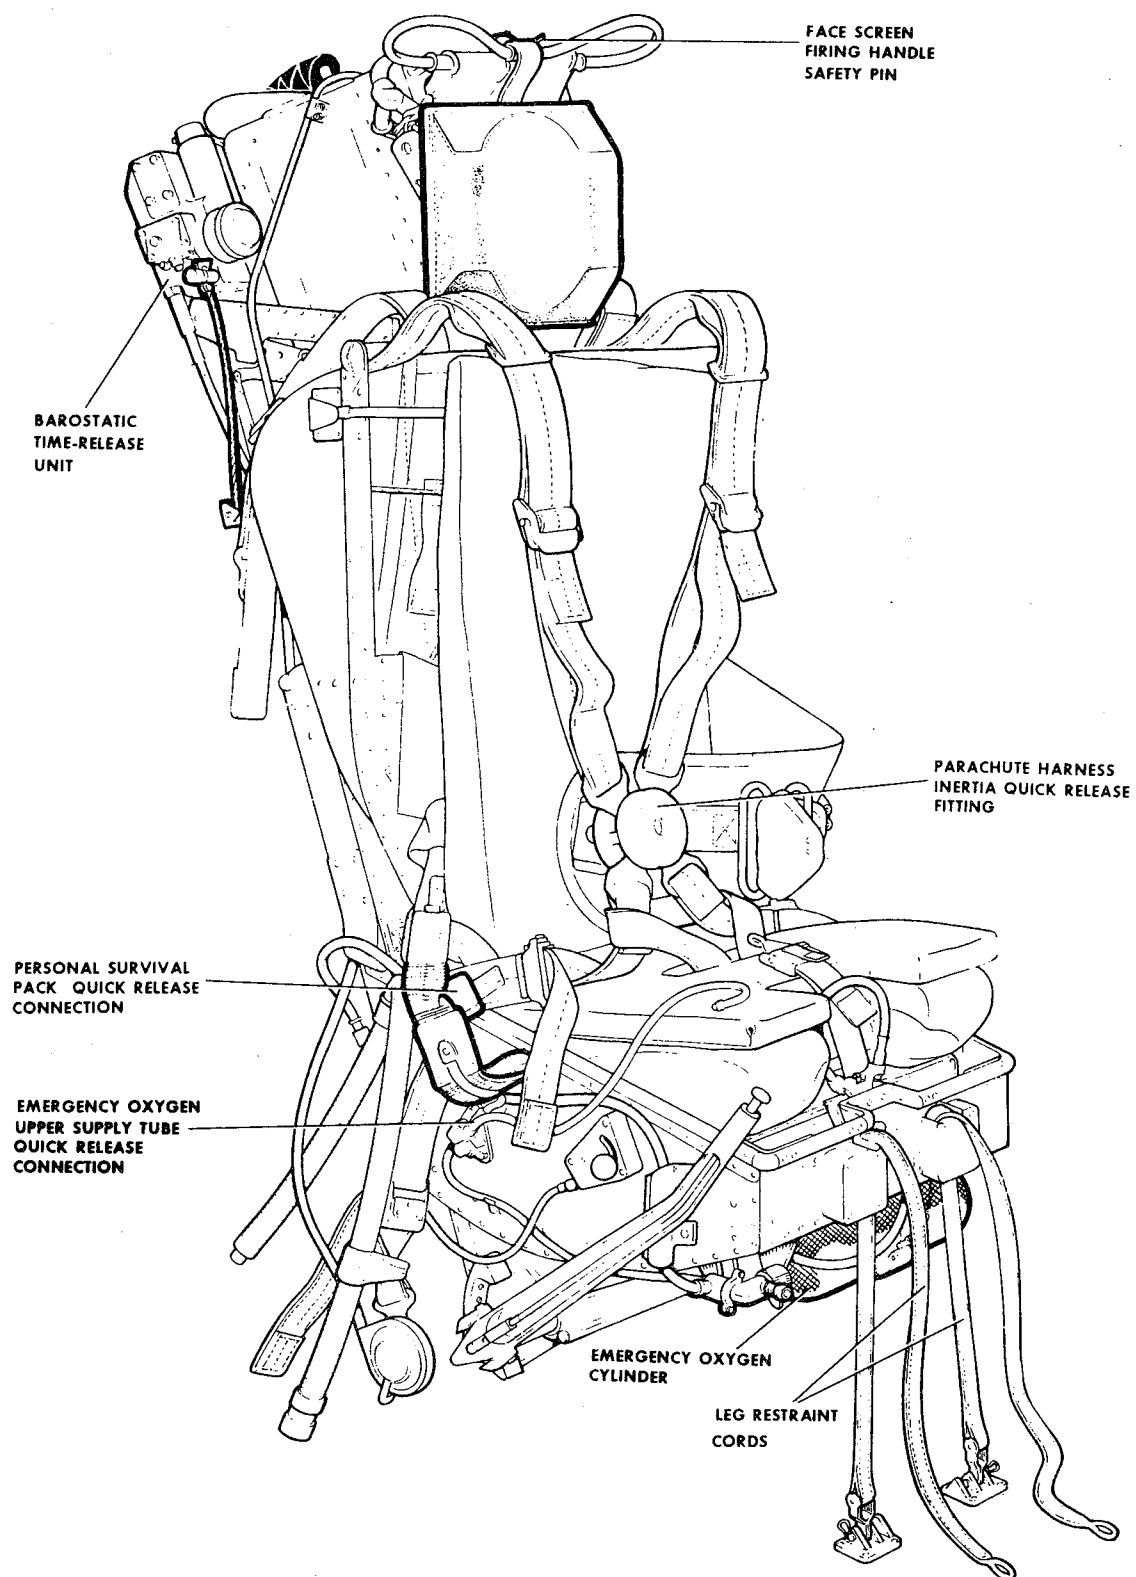

Fig.1 Seat equipped (1)
1. The Type 3H ejection seat (fig. 1 and 2) is fitted in Hunter F. Mk. 6, F (GA) Mk. 9 and FR. Mk. 10 aircraft.
17. The following procedure is to be used when installing the equipment in the seat; refer to fig. 1 to 4 for details as necessary.